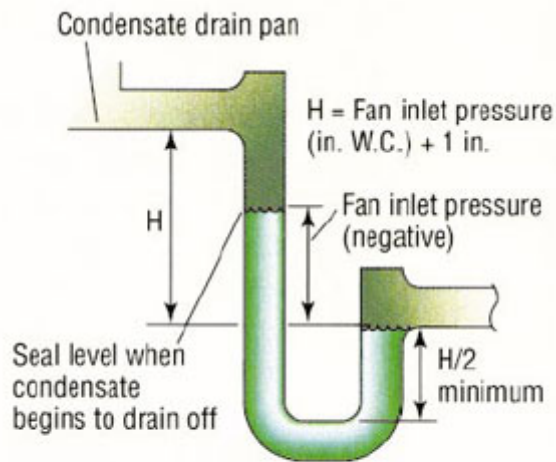

Figure 3 : Trap for draw-thru unit, condensate beginning to drain away.
**Figure 2** shows the position of the condensate columns when the fan starts, while **Figure 3** shows the water levels when enough condensate has accumulated in the trap to begin draining away.